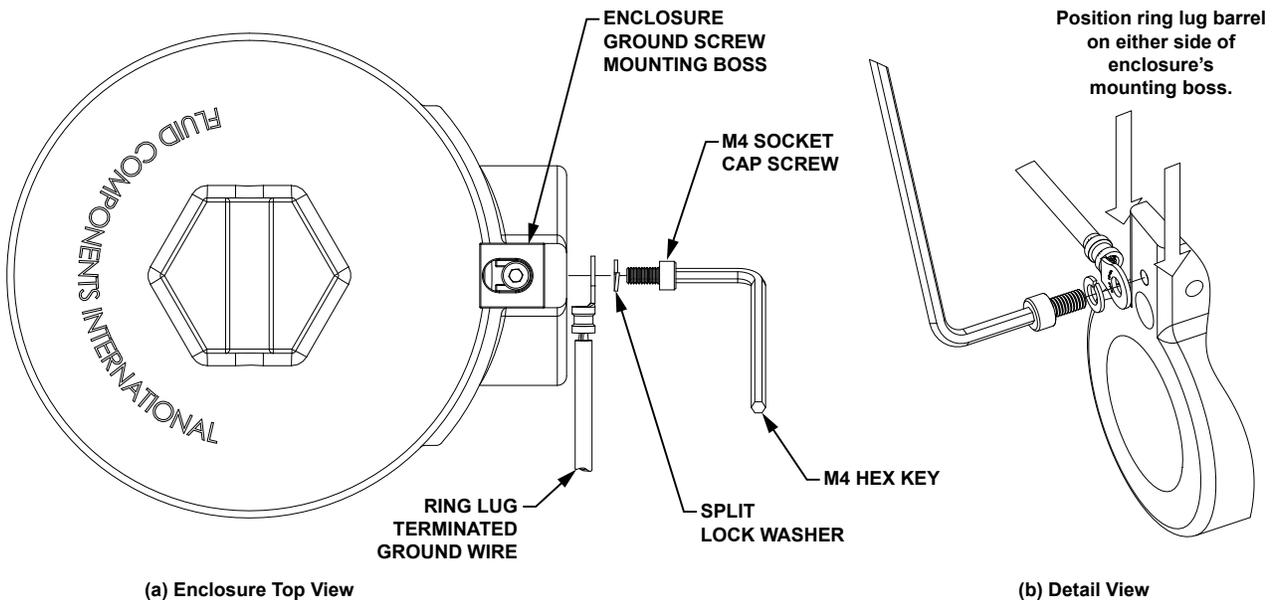

Figure 8 – Installing Ring Lug Terminated Ground Wire
- Install ground wire ring lug with end of lug barrel touching the side of the enclosure's mounting boss as shown in Figure 8. Place the ring lug on either side of the mounting boss as needed for the installation. Install with the hardware in this order: socket cap screw, split lock washer, ring lug. Torque cap screw to 23 in-lb (2.6 N-m).